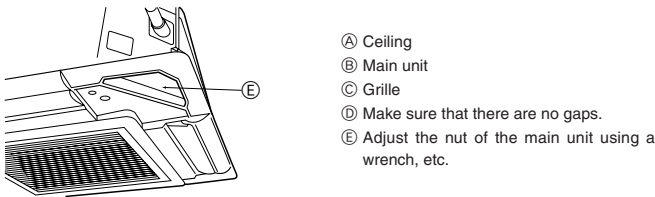

Fig. 10-7
10.4.3. Securing the grille (Fig. 10-7)